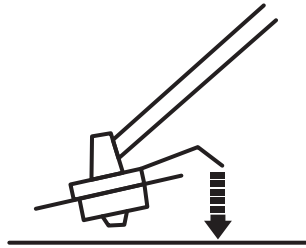

Fig. 19e
9). The trimmer head is equipped with a bumper (B13) helping to cut the trimming line (B12) while operating. Simply tap the bumper on a firm surface and the spool will release fresh trimming line. (See Fig. 19e)